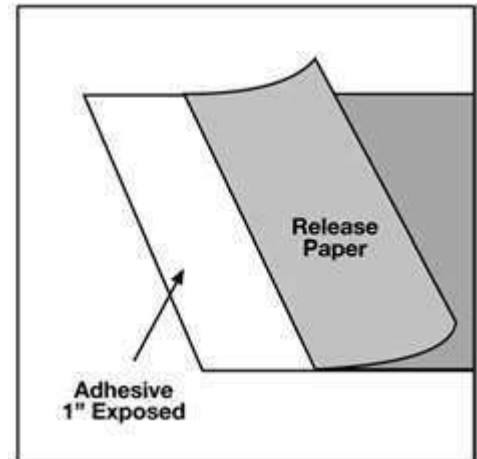

Figure 5d
2. Place the mounting substrate on a flat surface and expose approximately 1" of the adhesive by peeling back the release paper (Figure 5d).